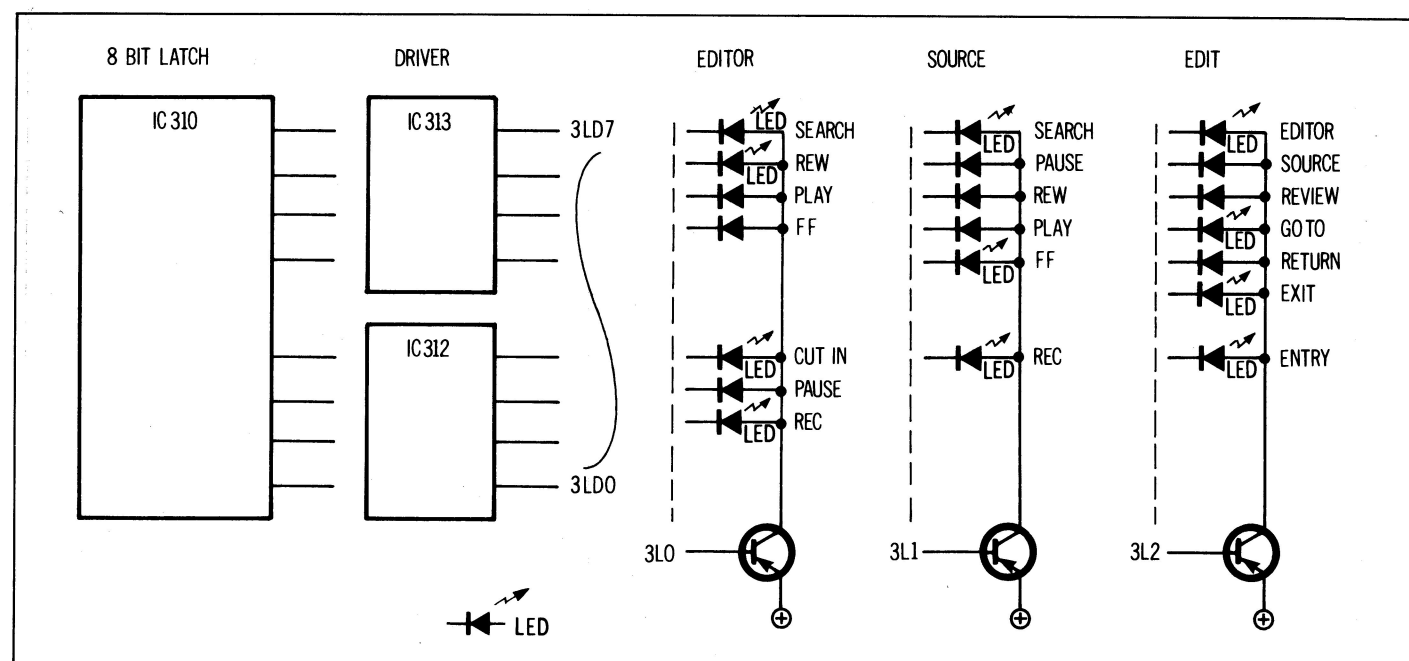

Figure 3-34
The lamps (LED) for the various mode buttons, both for the VCRs and also for the edit select and process controls, are treated as if they were seven segment displays, and multiplexed in the same fashion. They form Lamp Drive (LD) groups 3 and 4. This is shown in Fig. 3-34.